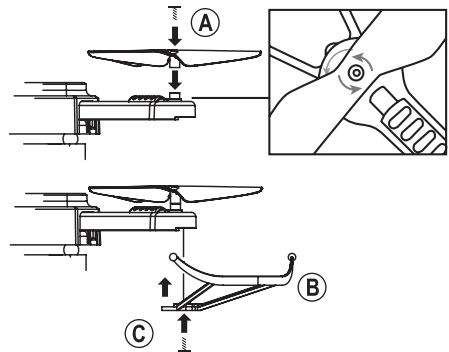

Figure 6
Fix each of the four rotors in place with a screw (A) (see figure 6). Ensure that the rotors rotate in the same direction as the motor (see markings on rotors and outrigger arms).
The quadcopter comes with four rotor guards (B) to protect the rotors. Attach a rotor guard to each outrigger arm (see figure 6).